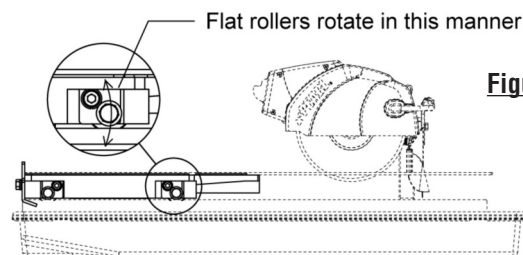

Figure 12
1. Loosen the socket bolts on the flat roller plate so that the roller can swing freely about the bolt. (See figure 12). Do this for both flat roller plates.